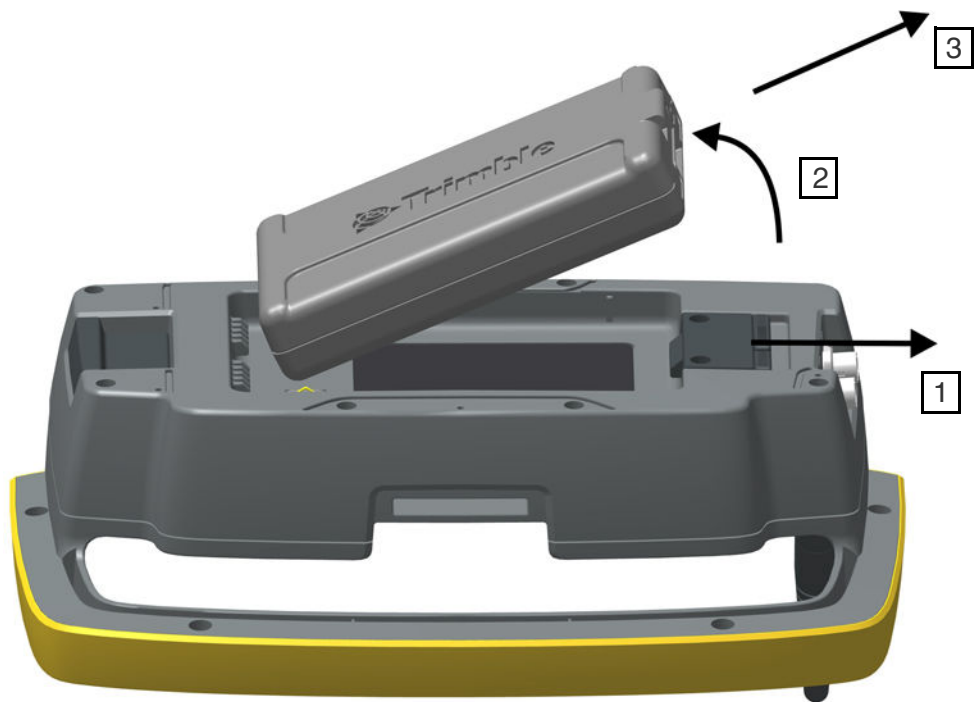

Figure 5.14 Detaching a battery from the Trimble Robotic Holder
1. Pull the battery lock mechanism away from the battery (1).
2. Lift up this side of the battery (2).
3. Remove the battery from the holder (3). See Figure 5.14.